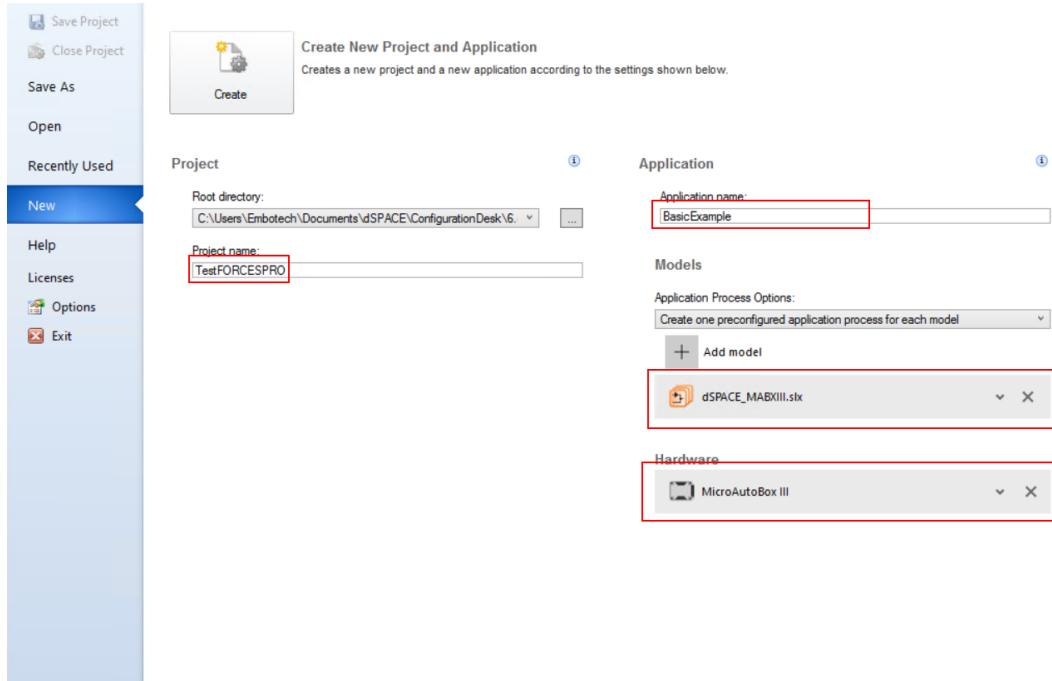

Figure 13.71: Create project and application in ConfigurationDesk.
- 15) Create a new Project and Application in ConfigurationDesk. Select directory of project, name of project and application, the model `dSPACE_MABXIII.slx` as the application process and connected MicroAutoBox III to deploy to (see Figure 13.71).